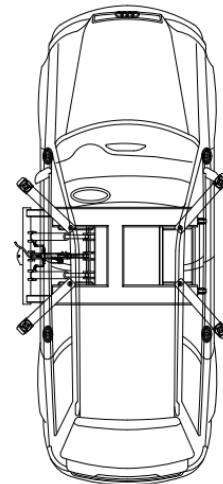

Fig.12 Correctly loaded vehicle
3. The vehicle is correctly positioned. (Fig.12).